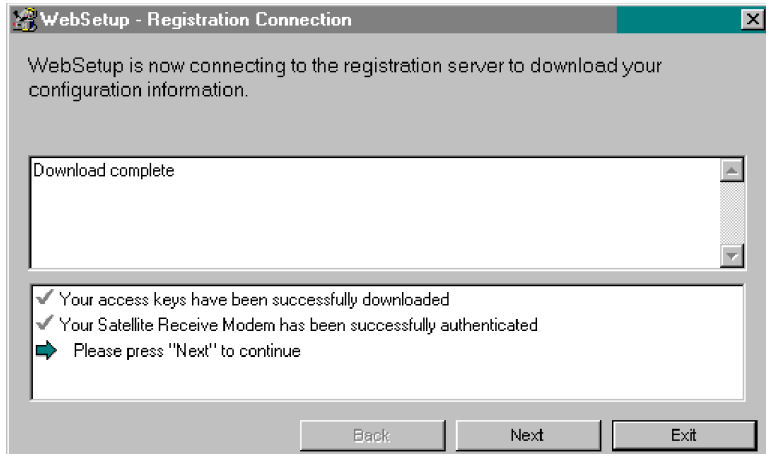

Figure 17: Registration Connection - Authentication
6. Websetup will then authenticate the receive modem serial number and enable it. See Figure 17.